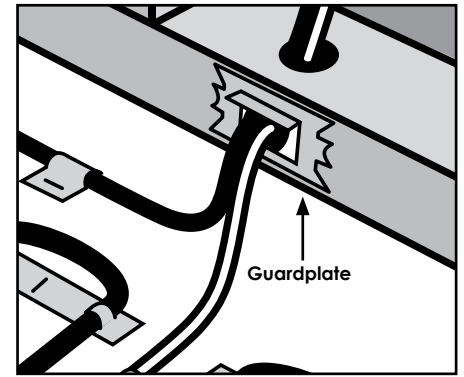

Figure 1
- Install guard plate as shown in Figure 1.